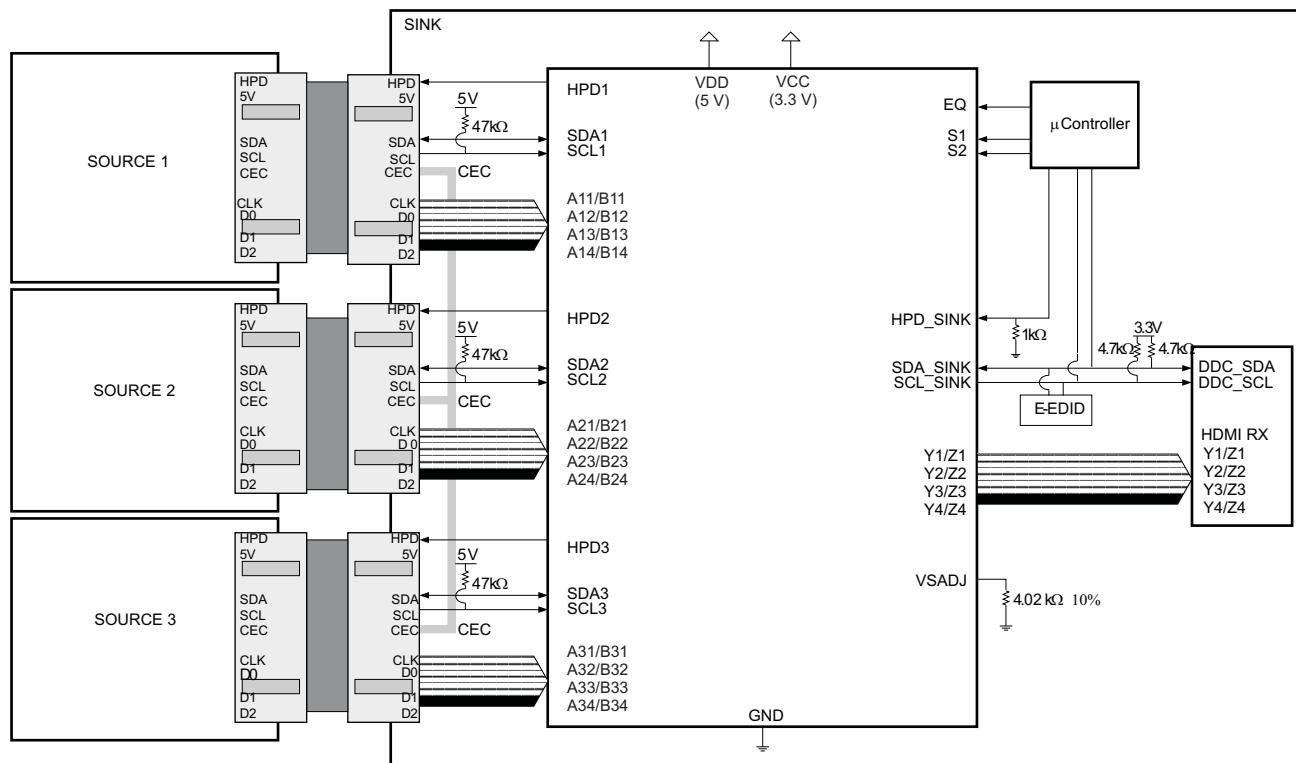
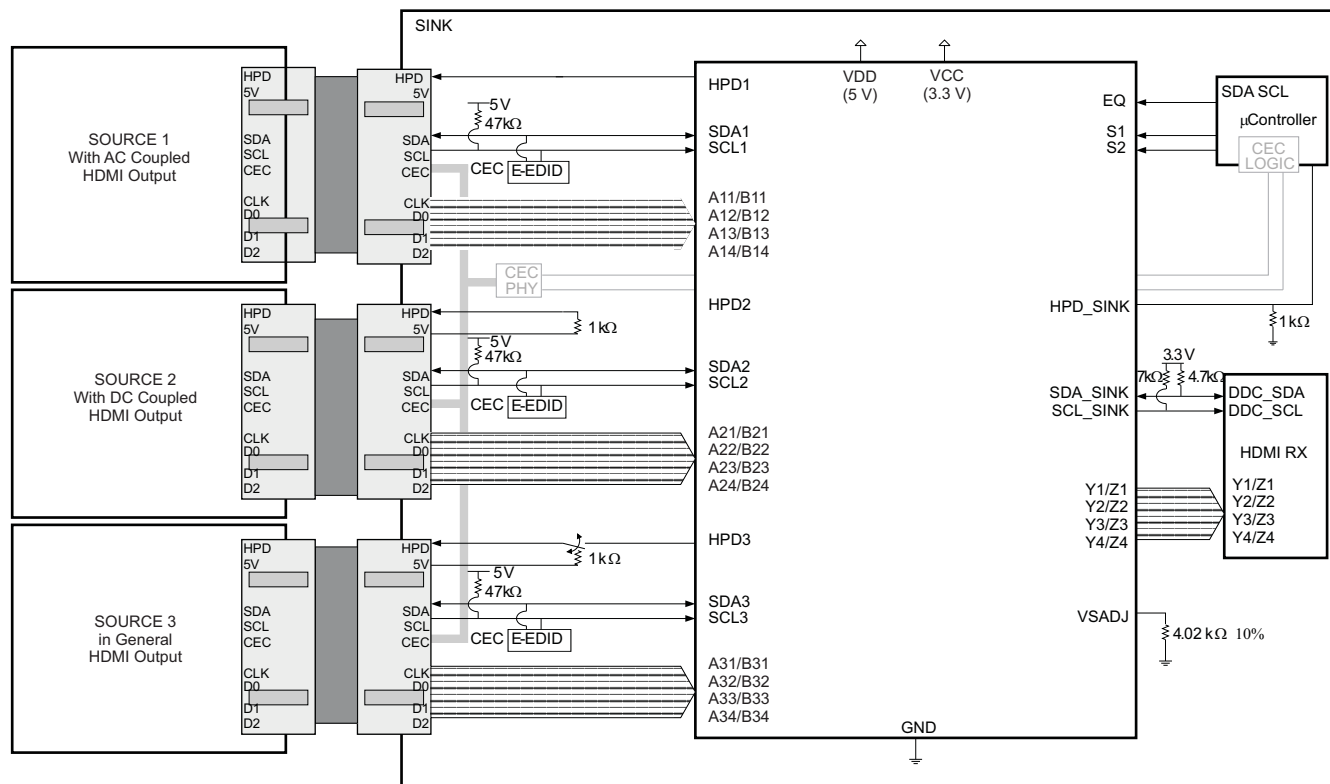

Figure 18. Three-Port HDMI Enabled DTV with TMDS351 – CEC Commands Passing Through
Figure 19. Three-Port HDMI Enabled DTV with TMDS351 – CEC Commands Active
The TMDS351 supports a DTV with up to three HDMI inputs when used in conjunction with a signal-port HDMI receiver or four HDMI inputs when used in conjunction with a dual-port HDMI receiver. Figure 18 and Figure 19 show simplified application block diagrams for the TMDS351 in different DTVs with different consumer electronic control (CEC) requirements. The CEC is an optional feature of the HDMI interface for centralizing and simplifying user control instructions from multiple audio/video products in an inter-connected system, even when all the audio/video products are from different manufacturers. This feature minimizes the number of remote controls in a system, as well as reducing the number of times buttons need to be pressed.
In Figure 18, the DTV does not have the capability of handling CEC signals, but allows CEC signals to pass over the CEC bus. The source selection is done by the control command of the DTV. The user cannot force the command from any audio/video product on the CEC bus. The selected source reads the E-EDID data after receiving an asserted HPD signal. The micro-controller loads different CEC physical addresses while changing the source by means of the S1 and S2 pins.
Please note if the source has a time-out limitation between the 5 V and the HPD signals, the above configuration is not applicable. Uses individual EEPROMs assigned for each input port, see Figure 19. The solution uses E-EDID data to be readable during system power off or standby mode operations.
In Figure 19, the CEC PHY and CEC LOGIC functions are added. The DTV can initiate and/or react to CEC signals from its remote control or other audio/video products on the same CEC bus. All sources must have their own CEC physical address to support the full functionality of the CEC link.
### Case 1 – AC Coupled Source (See Figure 19, Port 1)
### Case 2 – DC Coupled Source (See Figure 19, Port 2)
### Case 3 – External Logic Control for HPD (See Figure 19, Port 3)
• Changed From: <a href="#">Figure 19</a> To: <a href="#">Figure 18</a> .....	<a href="#">19</a>
• Changed From: <a href="#">Figure 18</a> To: <a href="#">Figure 19</a> .....	<a href="#">20</a>